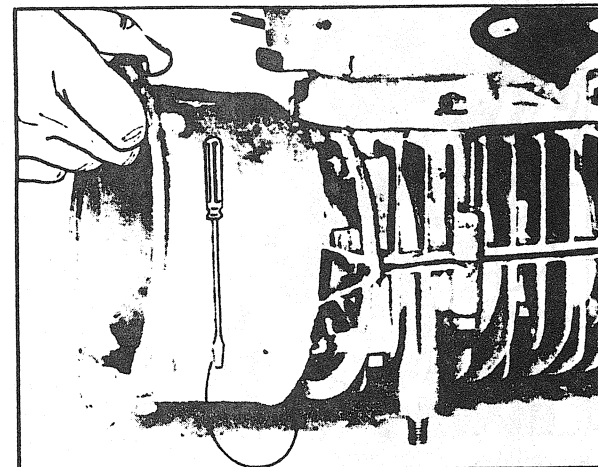

FIGURE 16
- Insert two (2) thin screwdrivers between magneto housing and crankcase.
- Pry out and remove the magneto housing from the crankcase (fig. 16).